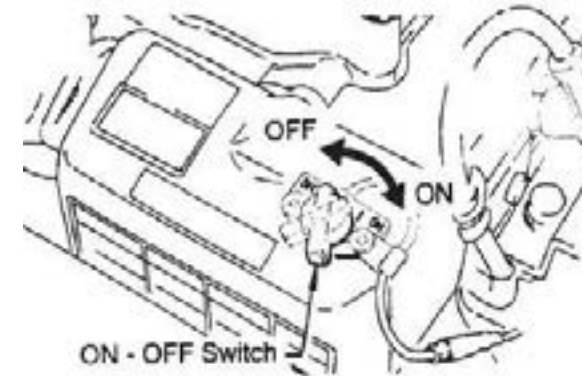

Fig 6
2. Set the engine ON/OFF switch (Fig 6) to the ON position to initiate the start.
1. Swiftly move the throttle lever from the FULL OPEN to the IDLE position (Fig 11) and allow the engine to run for three minutes at low speed. After the engine cools, turn the engine start/stop switch to the "STOP" position (Fig 6) until the engine comes to a complete stop.